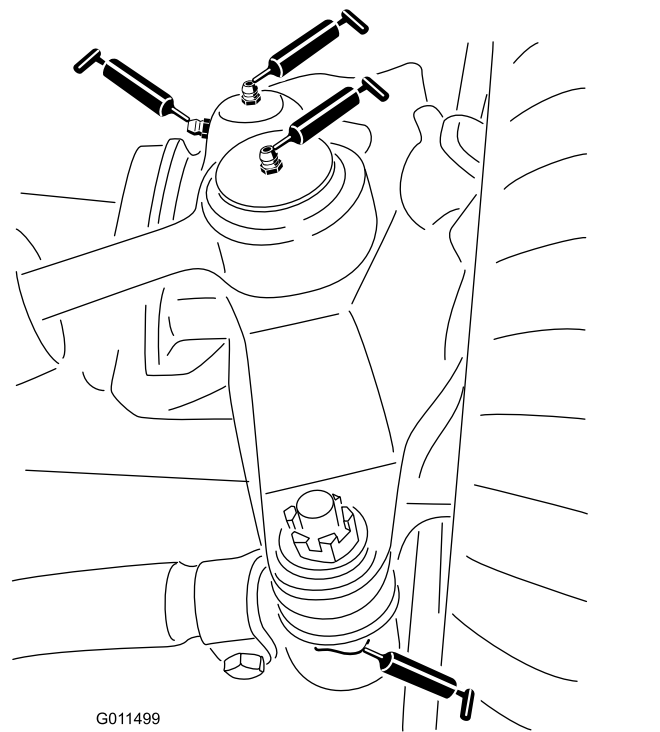

Figure 77
- 2 steering-cylinder-ball joints (Figure 77)
- 2 tie-rod-ball joints (Figure 77)
- 2 king-pin bushings (Figure 77).